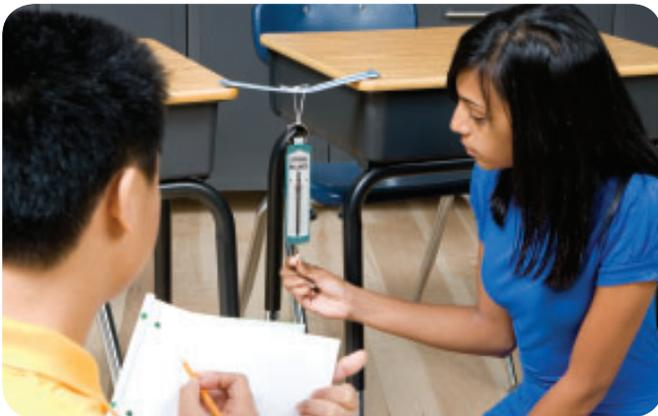

Figure 2 Setup for testing the strength of a beam bridge
3. Set up a single flat beam as a bridge supported at the ends by two stools or desks separated by 18 cm. The overlap at the ends of the beam should be equal. Tie a loose loop of string around the middle of the beam. Suspend the spring scale from it. As you read the force on the scale, very gently pull straight down until the beam fails (Figure 2). Record the force that caused the failure.